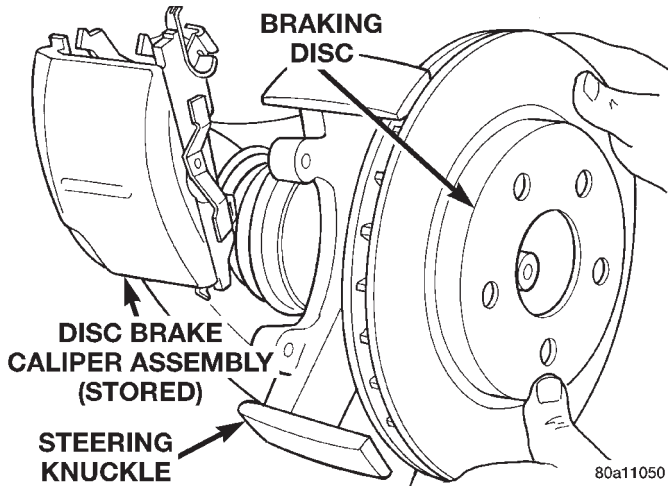

Fig. 63 Removing/Installing Front Braking Disc
(8) Remove the braking disc from the front hub/bearing assembly (Fig. 63).